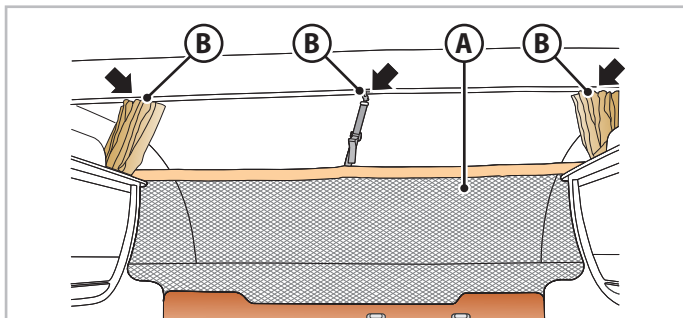
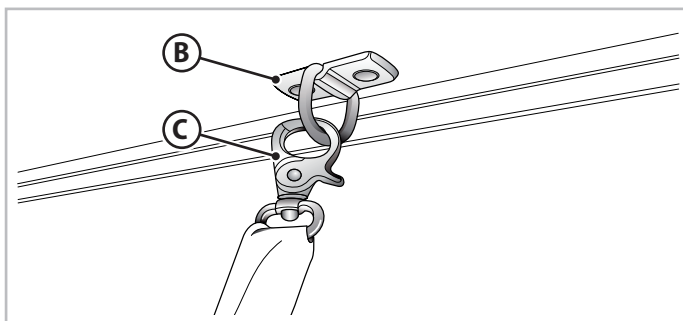

Fig.6.22 - Protective net for pull-down bed over dinette
Fig.6.23 - Protective net hook
- Secure the protective net (**A** - Fig.6.22) using the hooks (**B** - Fig.6.22 and Fig.6.23) the rings designed for this purpose (**C** - Fig.6.23).